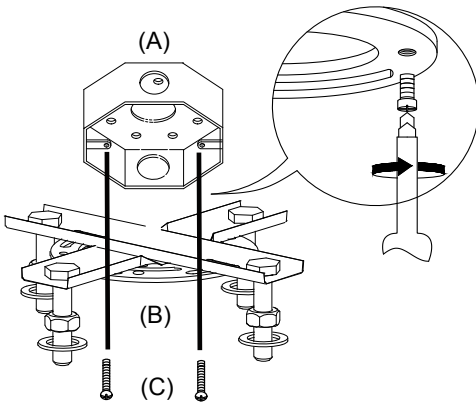

Fig 1
Take off screws from outlet box (A). Secure the mounting plate (B) onto the box with screws (C) taken off (Fig. 1).